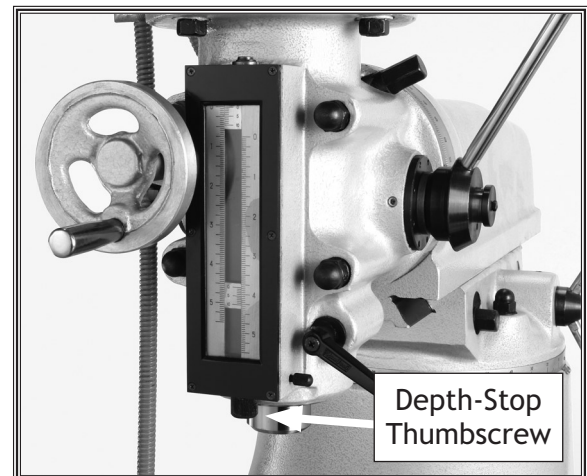

Figure 25. Depth stop detail.
4. Use the thumbscrew on the depth stops to set a predetermined depth (see **Figure 25**).